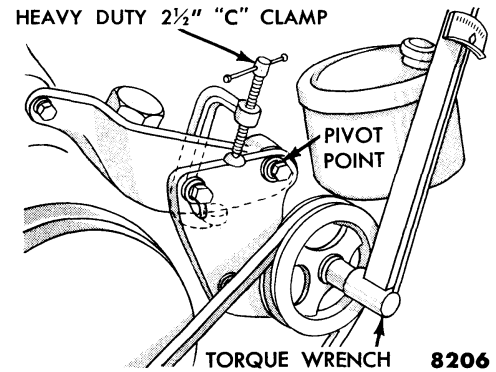

Fig. 4—Pump Belt Tension Adjustment
(2) **PUMP BELT TENSION.** Install a torque wrench on the pump pulley bolt (fig. 4). Check the torque required to slip the pulley against the belt friction. If the torque is not within 14-16 foot-pounds, an adjustment should be made.
Place a heavy-duty 2½-inch “C” clamp as shown in fig. 4. Loosen the four pump attaching bolts until the pump body may be moved by tightening the “C” clamp. Tighten the clamp until a torque of 14-16 foot-pounds is required to slide the pump pulley.